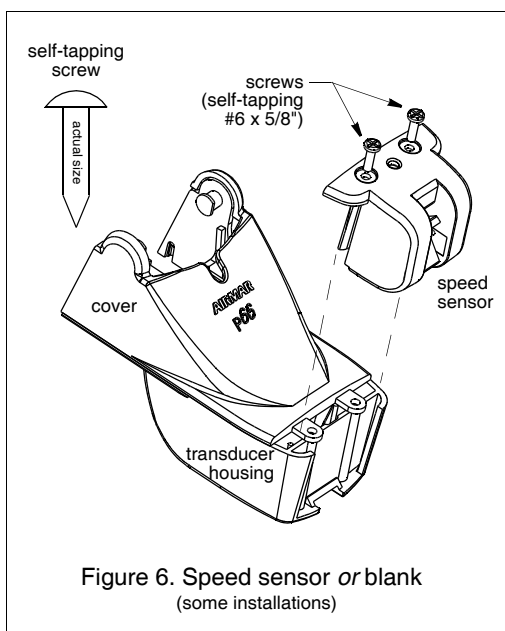

Figure 6. Speed sensor or blank (some installations)
1. Remove the two screws that hold the speed sensor onto the transducer housing (see Figure 6).
5. Insert the side rails of the speed sensor or blank into the channels on the back of the transducer housing (see Figure 6). Slide it downward. Fasten the speed sensor or blank in place with the two, #6 x 5/8", self-tapping screws.